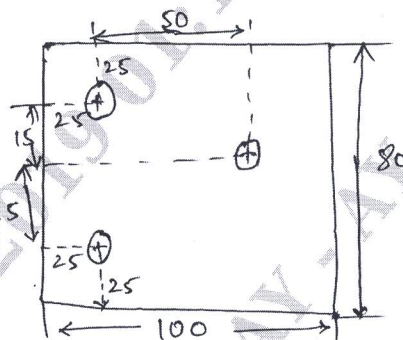

Fig.Q8(b)
- b. Write a manual part program for the following in Fig.Q8(b).